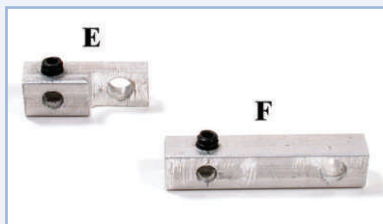

Figure 14 Leg and linkage parts assembly diagram — outside view.
Now that the individual pieces for the legs and linkages have been constructed, it's time to put them all together to form the mechanical part of the walking machine. Refer to Figures 14 and 15 when assembling the legs.
Step 14. Attach two leg pieces A and linkage piece C to the chassis at the locations shown in Figures 14 and 15.